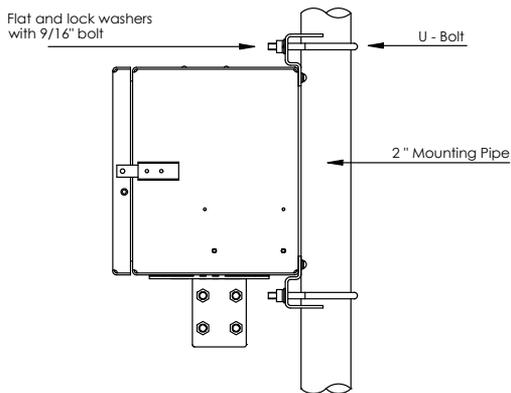

Figure 2. Pipe Mounts
- 1C** Position the enclosure on the 2" mounting pipe, and secure in place with two U-bolts, flat washers, lock washers and two 9/16" bolts (see Figure 2).